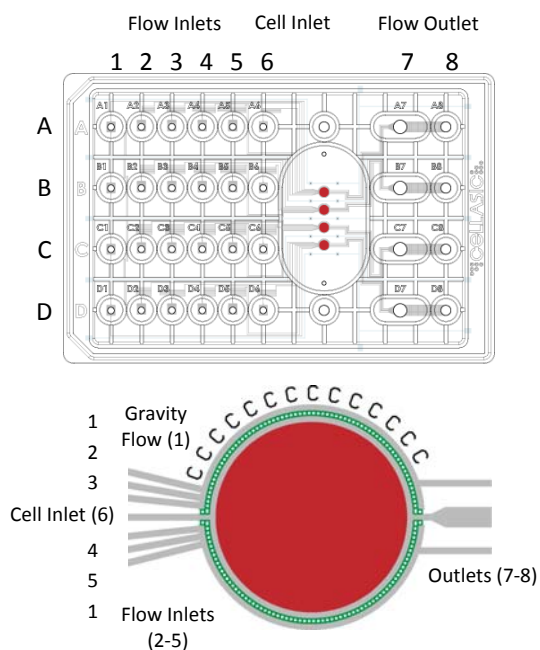

Figure 1. Plate Layout
1. The M04S microfluidic plate contains 4 parallel chambers, each with a gravity flow inlet (1), 4 solution inlets (2-5), a cell inlet (6) and two shared outlets (7 & 8, Figure 1). Each row of wells (A-D) addresses the corresponding chamber. The plate is shipped pre-primed with sterile PBS, which can be replaced with a buffer of choice prior to experiment.